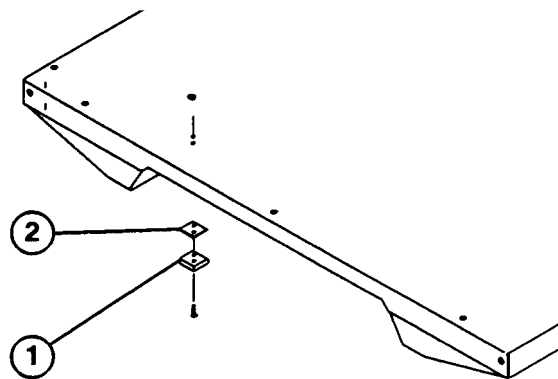

Figure 6
5. Remove the machine screws and locknuts securing the (2) spacer blocks and shims to the front underside of the bed (Fig. 6).